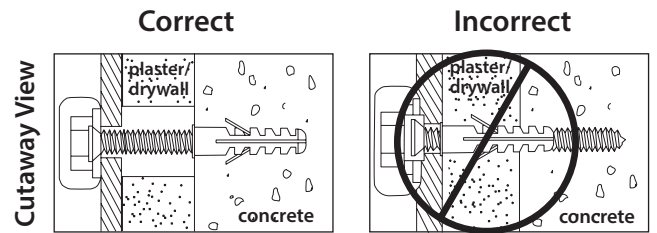

Figure 2
- Pre-drill holes into concrete using 5/16" drill bits to a depth of 2-1/2". Insert concrete wall anchors (W) and tap in with hammer, if necessary (Figures 2 & 3).